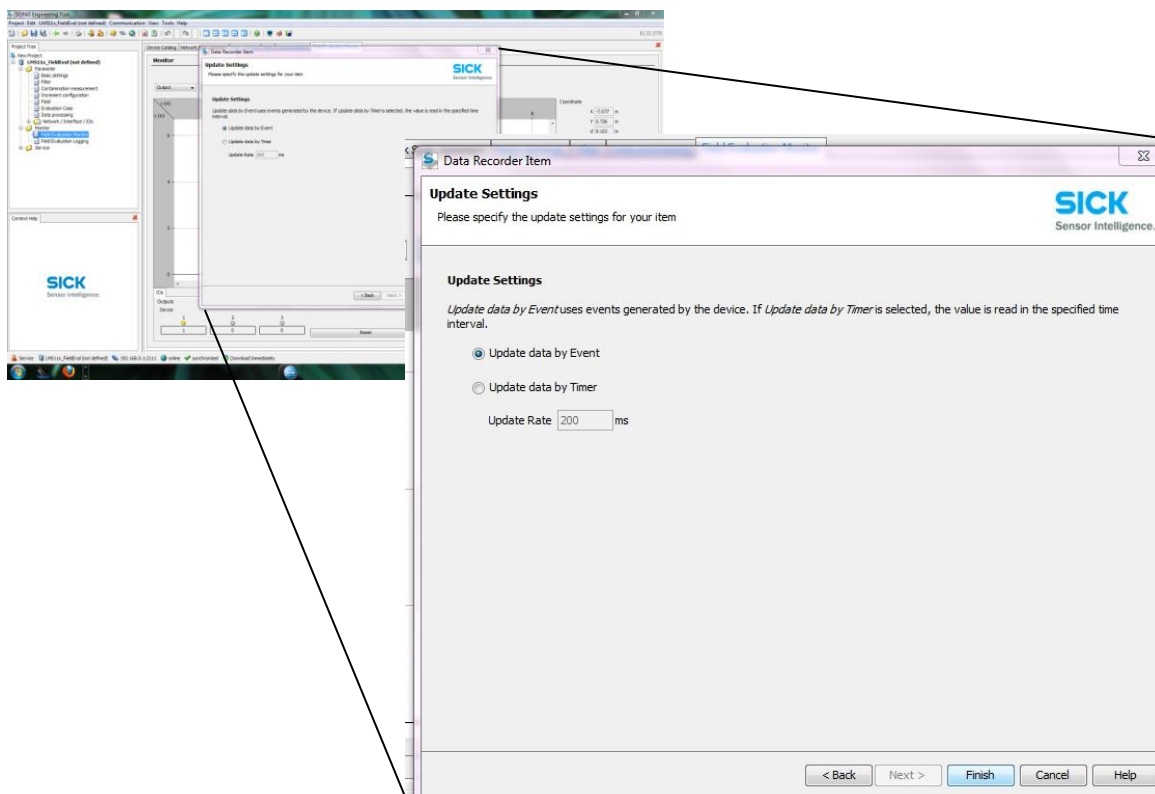
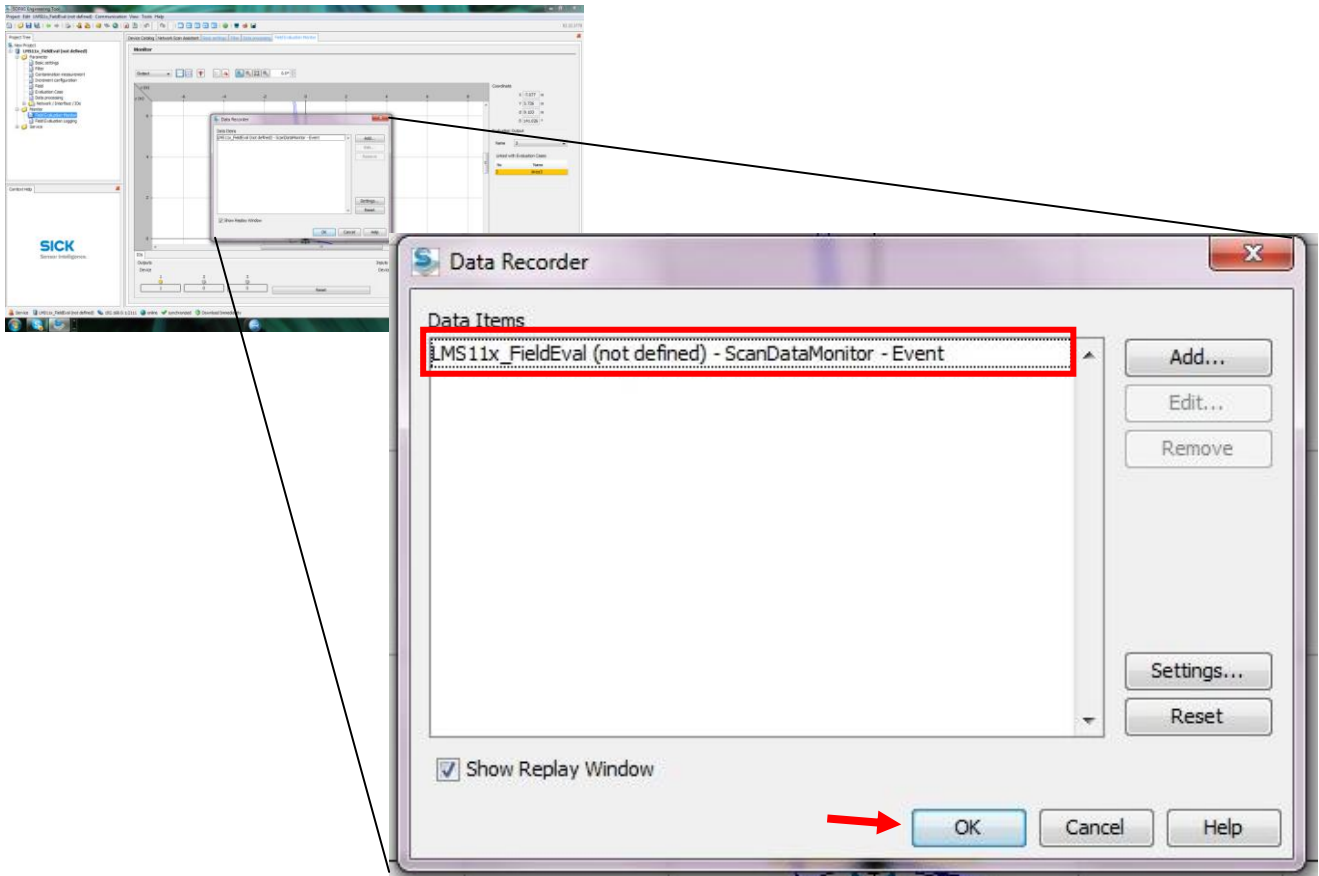

Fig. 17.
Fig. 18.
Click on "ScanData" and it leads to the following (Fig.17.) dialog box. (just press "Finish"):
15. And just now everything is ready for recording data. Make sure that at “Data Items” appears “LMS11x\_FieldEval (not defined) – ScanDataMonitor – Event. (Fig.17). and then click on “OK”. Fig.18.